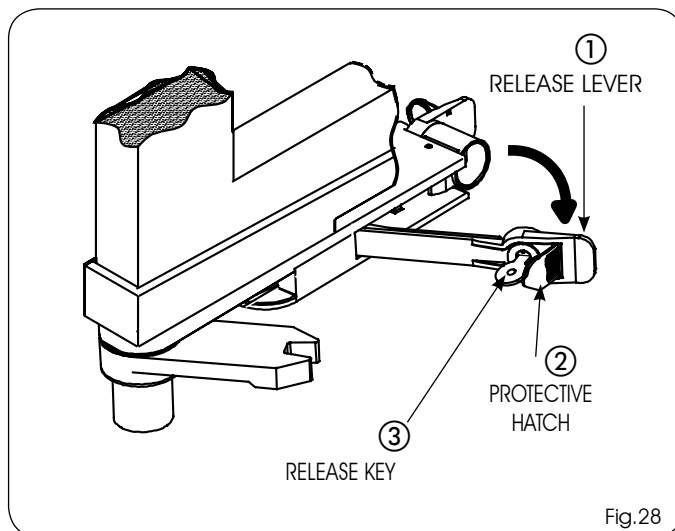

Fig.28
- 1) Open the protective hatch (Fig.28 ref. ②).
- 2) Insert the release key in the lock (Fig.28 ref. ③) and turn it clockwise up to its stop point.
- 3) Pull the release lever toward you (Fig.28 ref. ①).
- 2) Insert the release key in the lock (Fig.28 ref.③), turn it in the opposite direction up to the stop point and remove it.